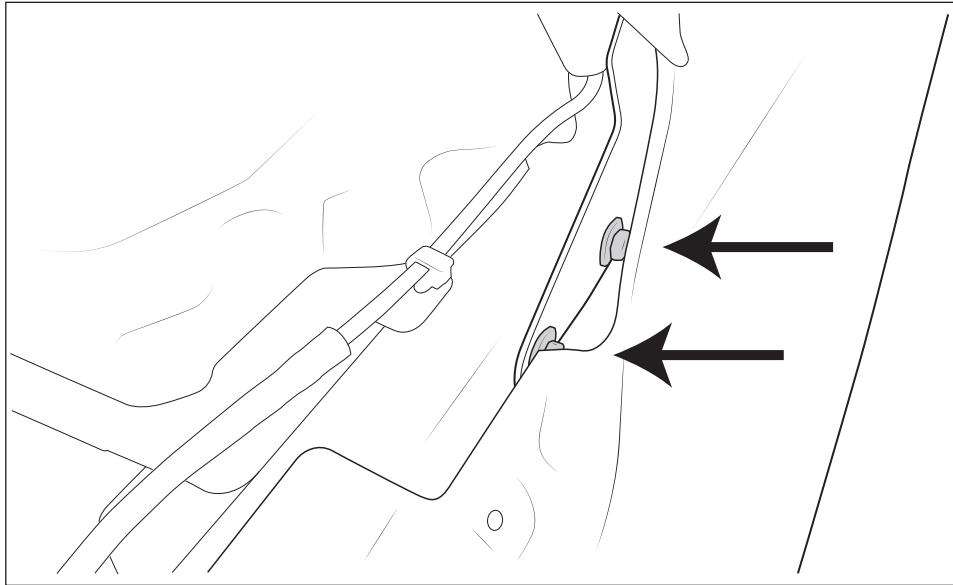

Figure 4
4. If the rear corners of the hood are not flush with the fenders, the hood hinges will have to be lowered. You can access the hood hinge bolts between the fender and the A pillar (fig. 4).